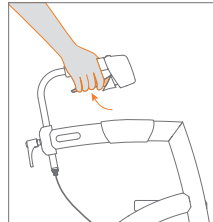

Figure 20: Braking.
- b. Squeeze the hand brakes for braking (**Figure 20**).